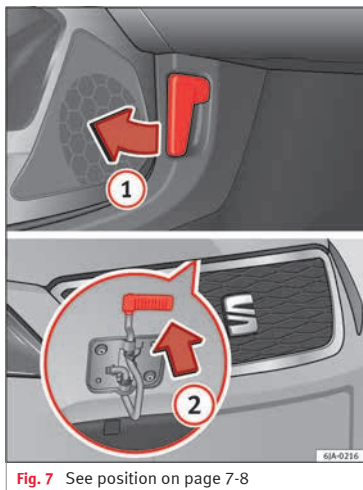

Fig. 7 See position on page 7-8
- Opening the bonnet: Pull the lever under the dashboard » Fig. 7 ①.
- Lifting up the bonnet: press the release catch under the bonnet upwards » Fig. 7 ②. The arrester hook under the bonnet is released.